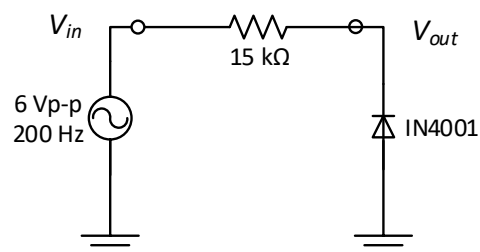

Figure 3: Negative clipper circuit
3. Now reverse the polarity of the diode in the circuit, as shown in Figure 3. How does this waveform compare with that of step 2?
Figure 3 circuit waveform. Yellow: V_{IN} and Green: V_{OUT} .